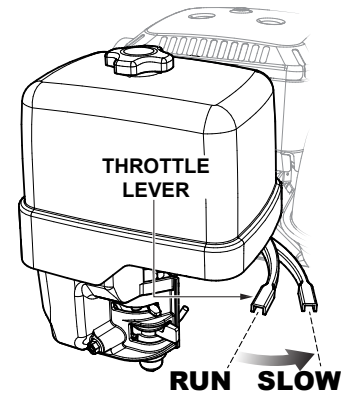

Figure 21. Throttle Lever (Slow/Idle Position)
1. Move the throttle lever to the "**SLOW**" (IDLE) position (Figure 21) and run the engine for three minutes at low speed.